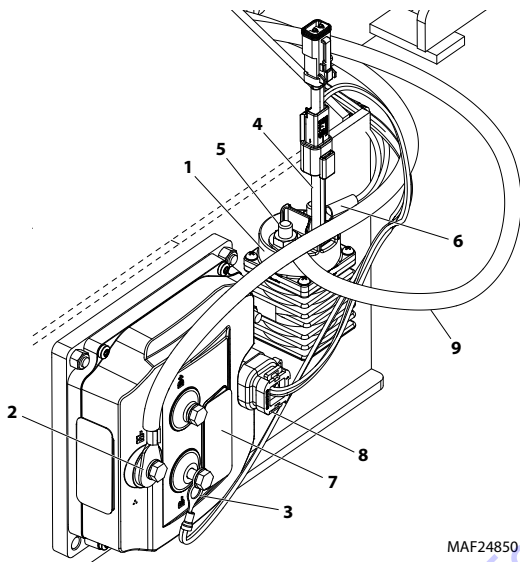

Figure 3-9. Main Power Contactor Relay and Pump Controller Module Location
The pump control module (item 7 - Figure 3-9.) is located inside the left side component door, mounted to the side of the battery box. Use the following instructions when replacing the pump control module.
1. When installing the pump control module, be sure that the terminals are oriented as shown in Figure 3-9.